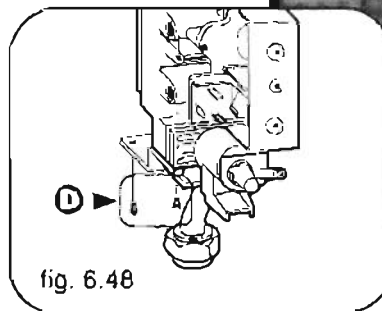

fig. 6.48
- 5 Remove the two screws "D" ( see fig. 6.48 ) by a Pozidrive n°2 star Inp screw driver;